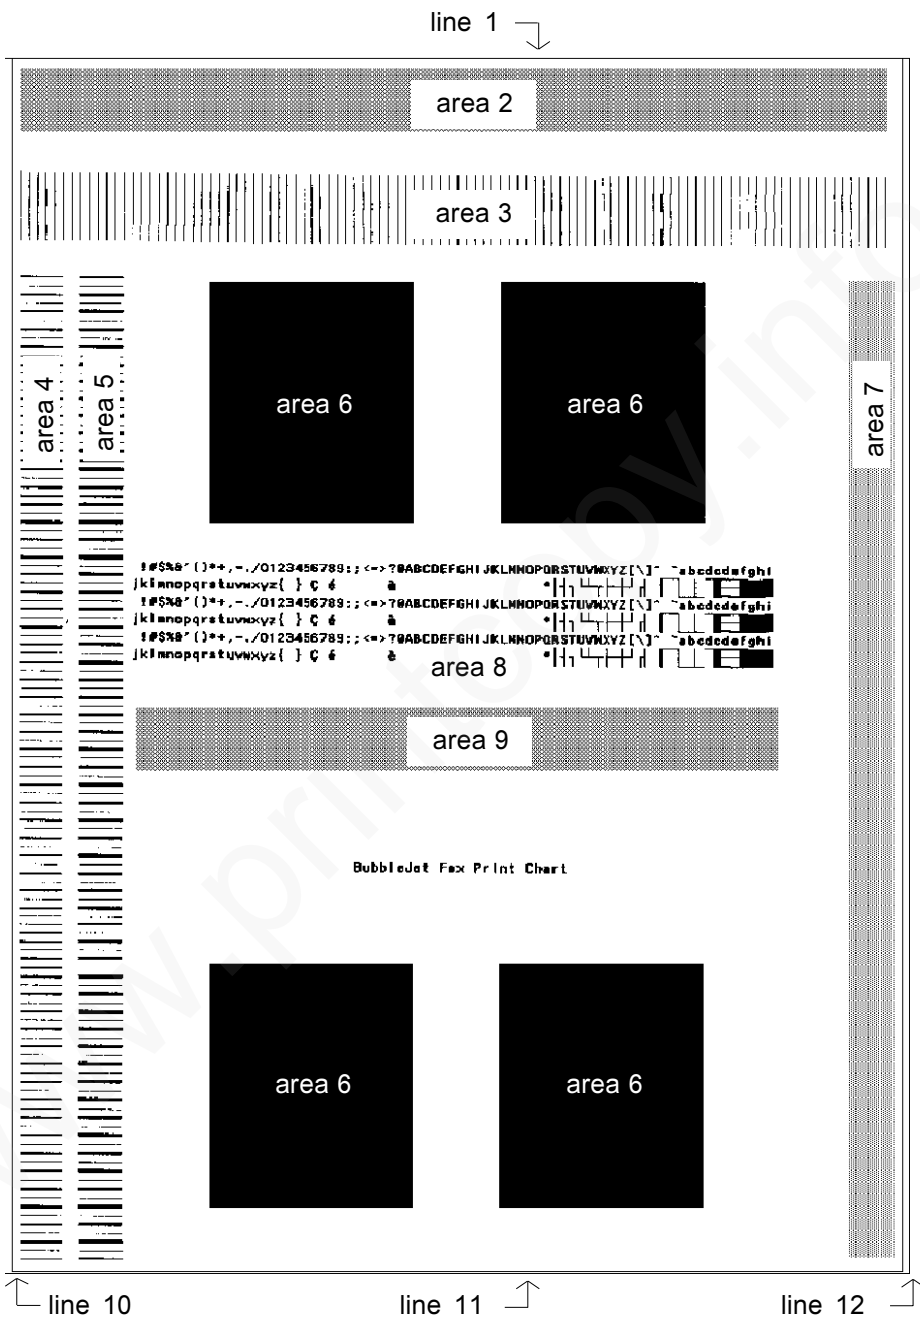

Fig. 6-4
c) Make sure that there is paper in the ASF and then press  : the test chart shown in fig. 6-4 is printed out.